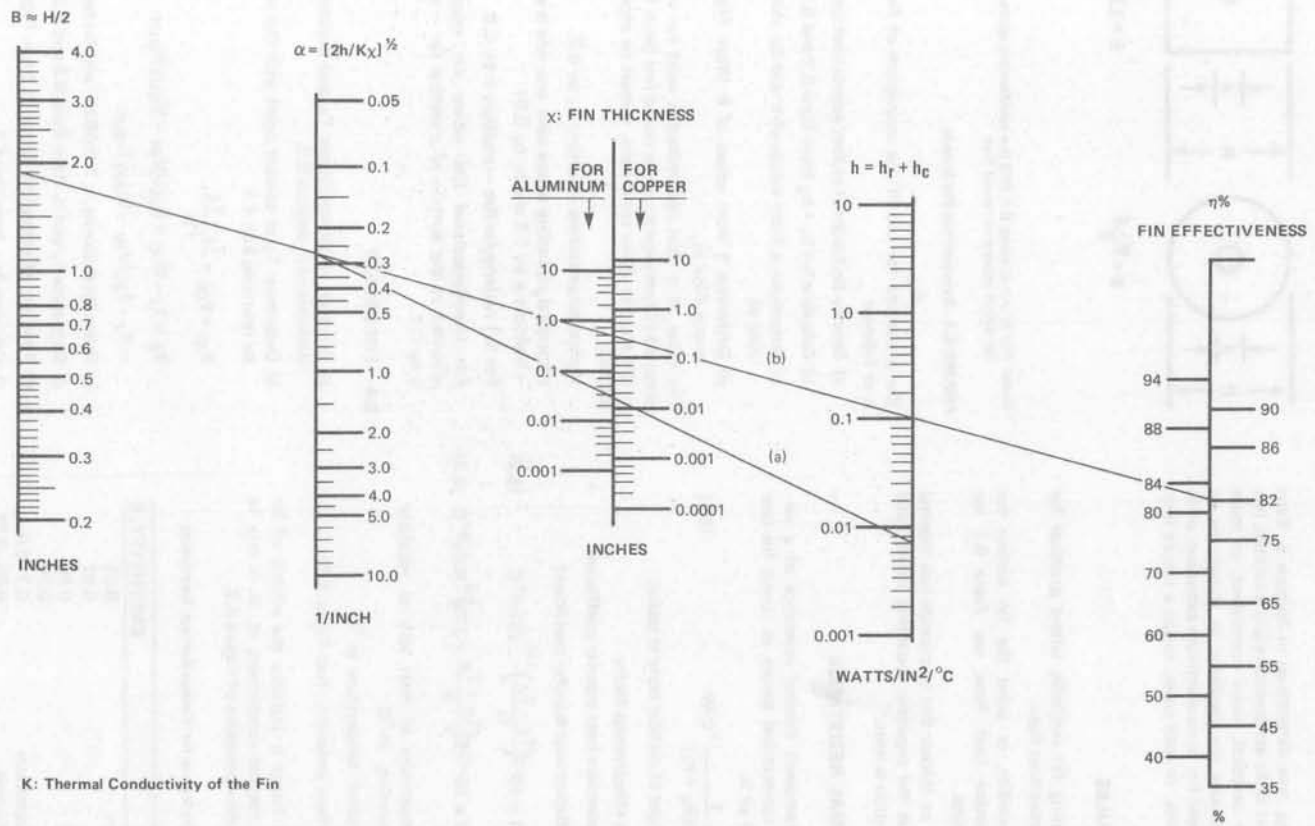

FIGURE 6.2. Fin Effectiveness Nomogram for Symmetrical, Flat, Uniformly-Thick, Vertically Mounted Fins
Fin effectiveness factor η includes the effects of fin thickness, shape, thermal conduction, et. al. It may be determined from the nomogram of Figure 6.2.
The procedure for use of the nomogram of Figure 6.2 is as follows:
- Find fin effectiveness factor η from Figure 6.2.
e) $\eta = 0.84$ from Figure 6.2.
e') $\eta = 0.75$ from Figure 6.2